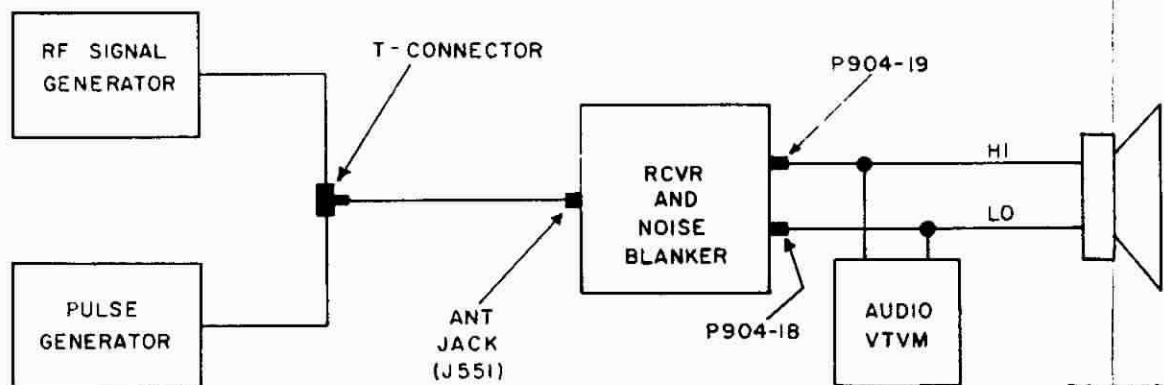

Figure 1 - Equipment Connection Diagram
1. Connect Pulse Generator and RF Signal Generator to receiver antenna jack (J551) through a T-Connector, and connect AC Voltmeter to receive audio output (Speaker LO, P904-18, Speaker HI, P904-19) as shown in Figure 1.